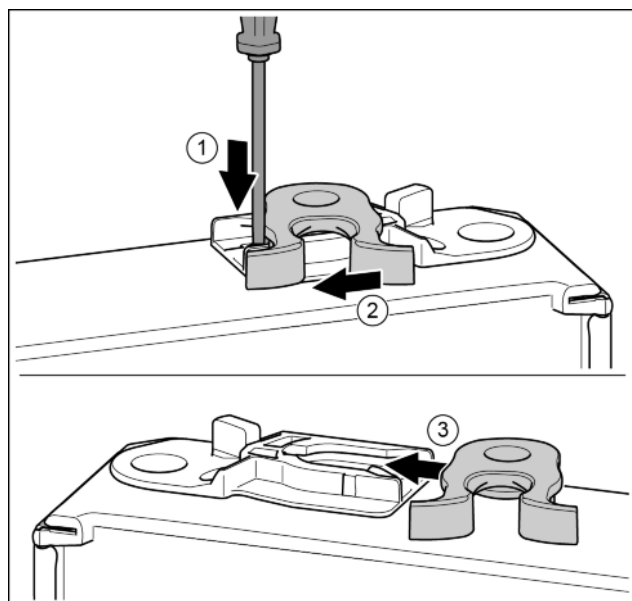

Fig. 19
- Push the tab downwards with a slotted screwdriver. Fig. 19 (1)
- Pull the door latch out of the guide. Fig. 19 (2)
- Push the door latch into the guide on the other side. Fig. 19 (3)